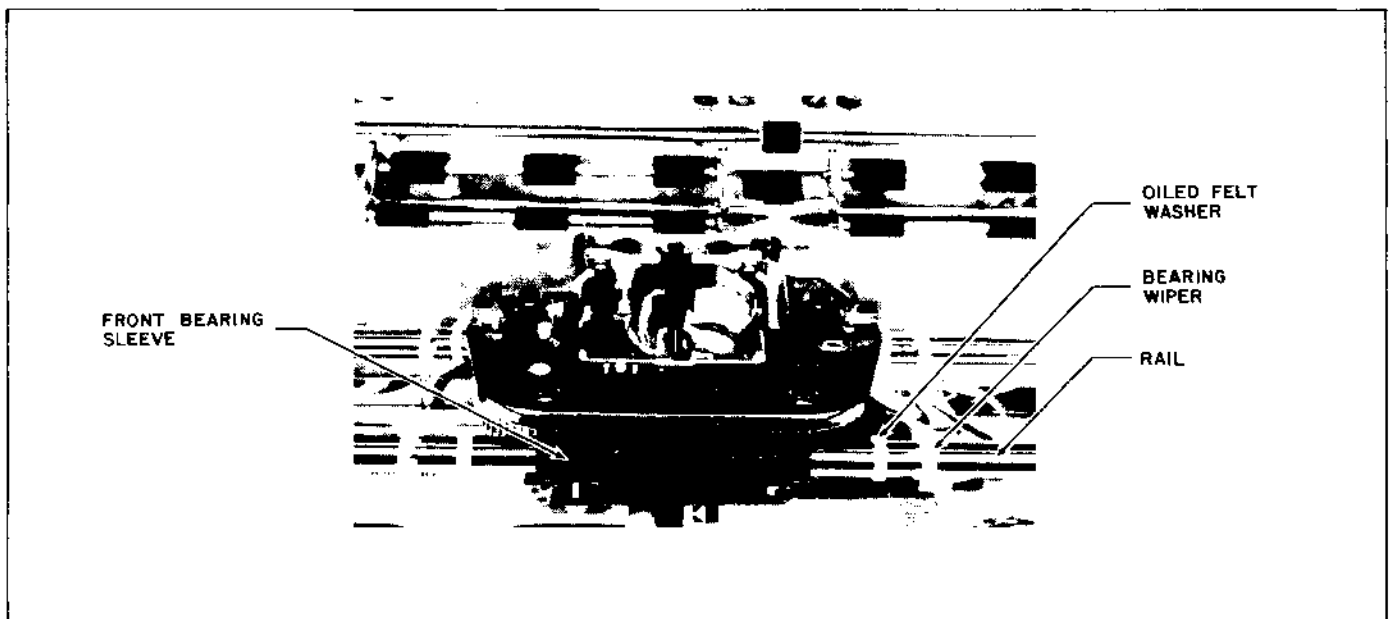

Figure 3-16. Carriage and Rail Assembly
- (2) Unless replacement of the carriage drive cable is to be included at this time, remove the drive pulley and spacer from the underside of the carriage.
- (3) Retrieve the carriage rails from their storage place, and thoroughly clean them with alcohol. After cleaning, check both rails for straightness and surface defects. Replace any rail which is bent or defaced.
- (4) Refer to Figure 3-16. Slide the cleaned and inspected carriage rails through the front and rear carriage bearing sleeves.
- (5) Gently slide an oil saturated felt washer on each rail end, followed by a white plastic bearing wiper. Be very careful not to stretch or break the felt washer. Push the washers into their bearing sleeves with the bearing wipers, and snap the wipers into position over the ends of the bearing sleeves.
- (6) Install the heavy rubber bumper washers on the rear carriage rail, two on the left end, and one on the right end.
- (7) Gently lower the carriage subassembly and rails down onto the printer main frame, with the rail ends nested in the frame notches. Move the rails until even on each end, reinstall the rail clamps, and the impression control switch. Tighten the 8 clamp screws firmly, using the TORX T15 screwdriver.
- (8) Hold the two spring shielded cables up out of the way, and gently slide the carriage back and forth as far as it will go. Carriage movement must be smooth and even, with no evidence of binding or roughness.